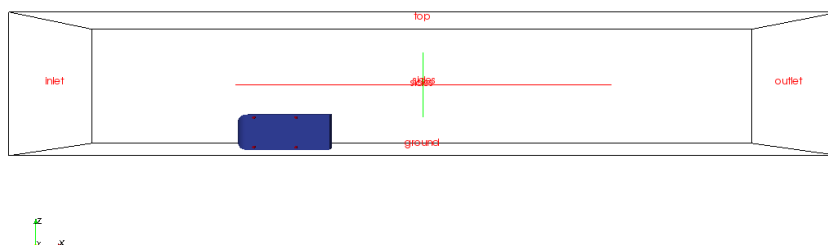

Figure 1.19: The Ahmed body is placed in the correct spot in the boundary stack. But, rotated 90° counter-clockwise.
Problem 1.1 The object is contained inside the computational domain. But, not placed in the right orientation as shown in figure 1.19.
3. See what's wrong; as in figure 1.19. Then, plan a correction method.